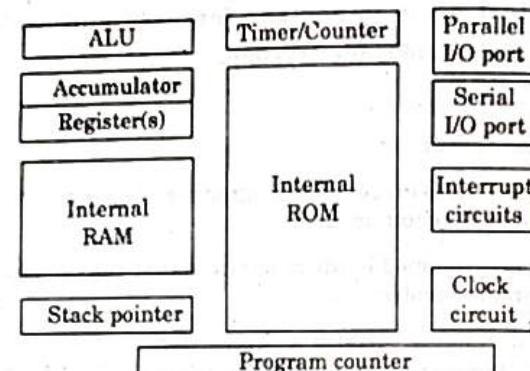

Fig. 4.4.1. Block diagram of a microcontroller.
2. The block diagram of microcontroller is shown in Fig. 4.4.1.